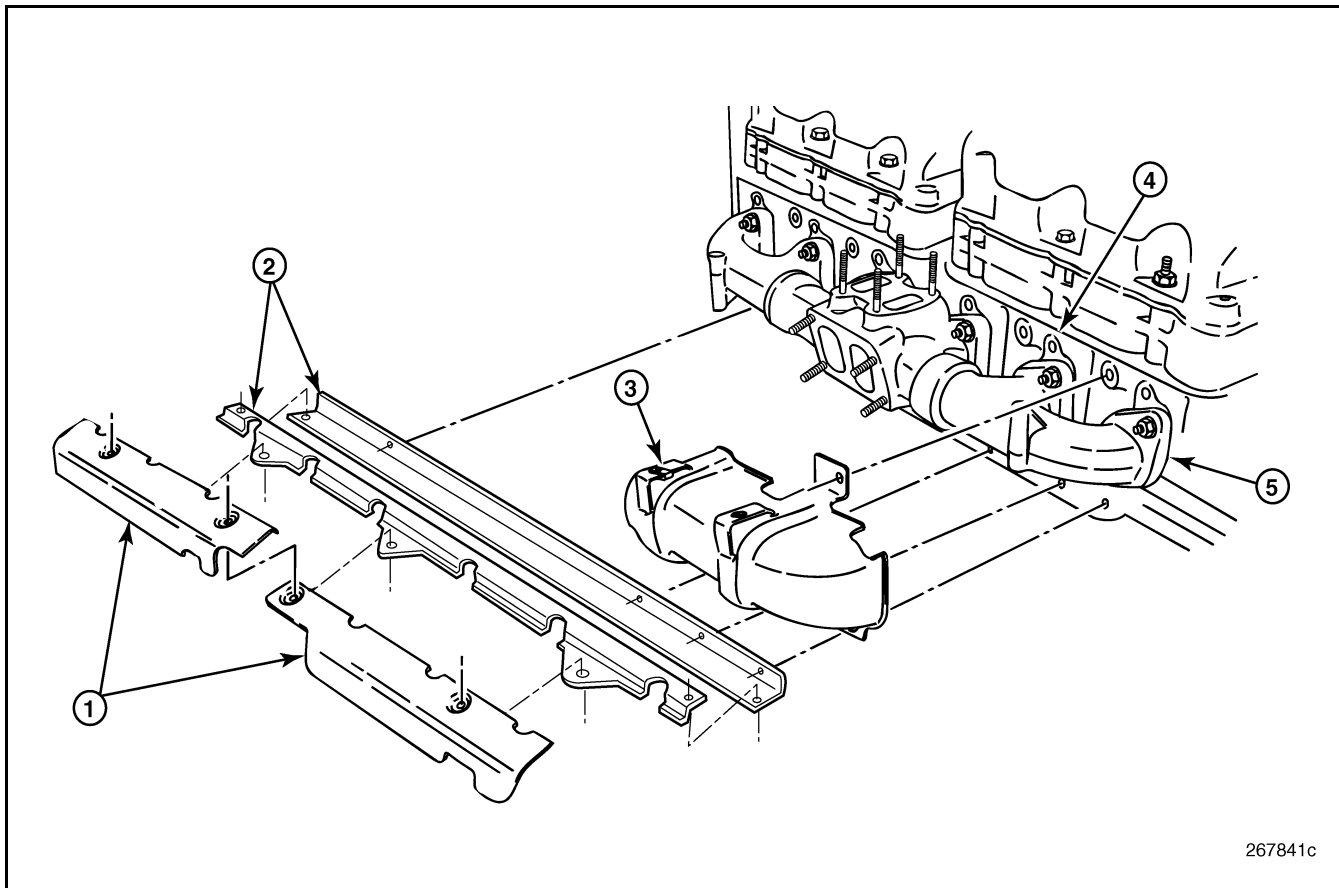

Figure 155 — EGR Valve and EUP Heat Shields
1. Remove the three retaining nuts and remove the two outer EUP heat shields (Figure 155).